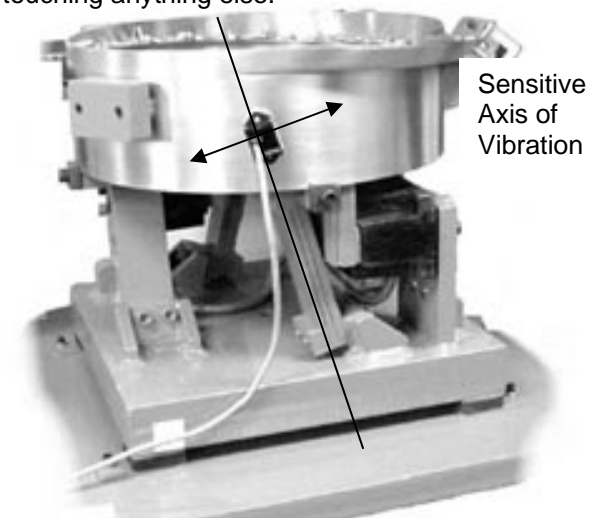

Fig. 2 The arrow shows the direction of vibration which is at a right angle to the spring pack.
A. ORIENT THE SENSOR so that its sensitive axis is in the same direction as the vibration of the feeder. The arrow in figure 1 shows the sensor’s sensitive axis. Align the sensitive axis of the sensor in the same direction as the vibration (see figure 2). The sensor must be oriented correctly for proper operation.
Use a cable tie and an adhesive-backed mount to attach the sensor cable to the side of the drive base. See Figure 2. Clean the mounting area before applying the adhesive-backed mount.